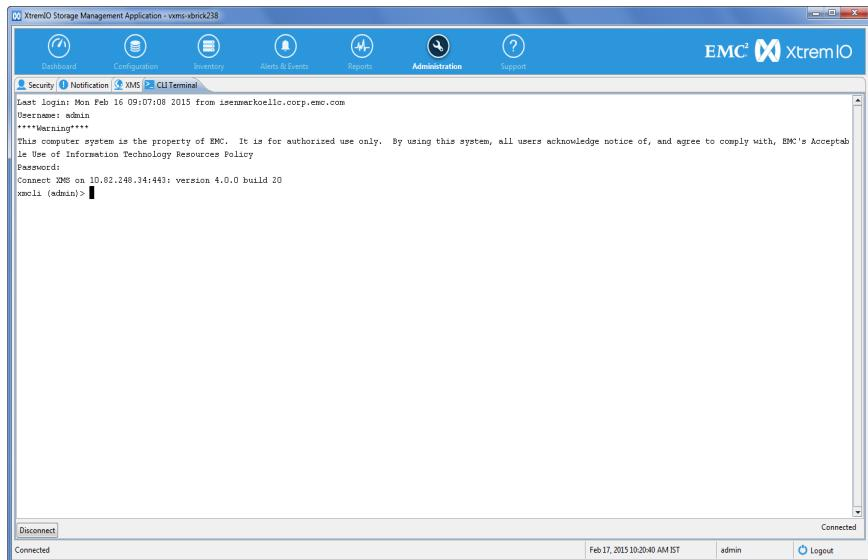

Figure 247 CLI Terminal Pane
2. From the left pane, select CLI Terminal; the CLI Terminal screen appears, as shown in Figure 247, allowing you to run CLI commands according to your user’s role.